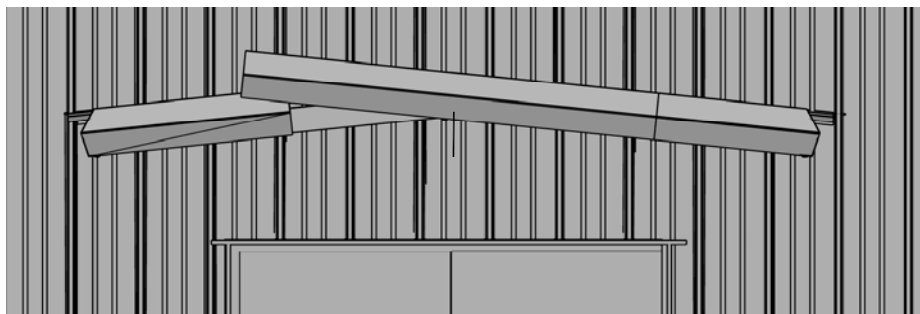

FIGURE 18
6. On the center mark, cut the Rake Trim from the bottom to the top horizontal leg. Slide the right side behind the left and press the Rake Trim into place upon the Tape Sealant on the Roof Panel (**Figure 18**). This cut does not have to be perfect because it will be covered with the Peak Plate (T-034-00). Attach the right side of the Rake Trim with Stitch Screws 6" on center. Use Pop Rivets for Rake Trim end laps.
8. Cut a piece from the Eave Filler (T-035-00) to fill in the gaps shown in Figure 18. Attach with Pop Rivets or Stitch Screws from below.
9. Attach Peak Plate (T-034-00) over the cut at the center of the Rake Trim using (4) Pop Rivets.